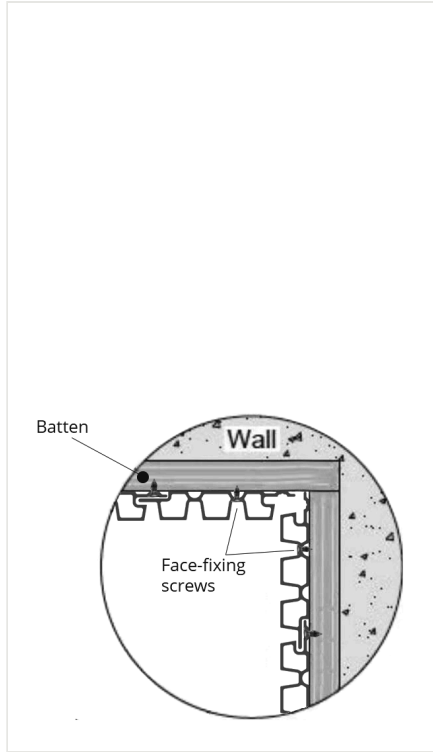

FIG. 11 - FACE-FIX THROUGH THE EXPOSED SLAT GAP
- 04 Place the board and drive the face-fixing screws through the pilot holes. Tighten securely without over-tightening (fig. 11).